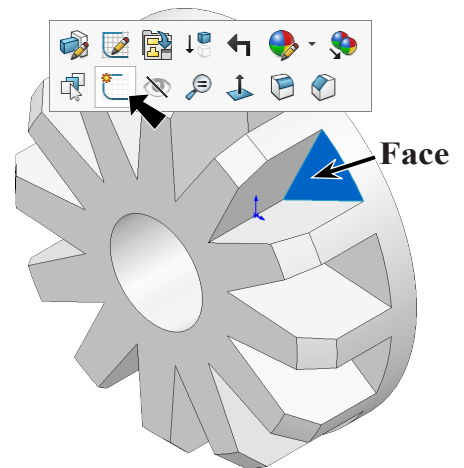

Fig. 19
Step 1. Click the **front face of Extrude1** and click **Sketch** on the context toolbar, **Fig. 19**.